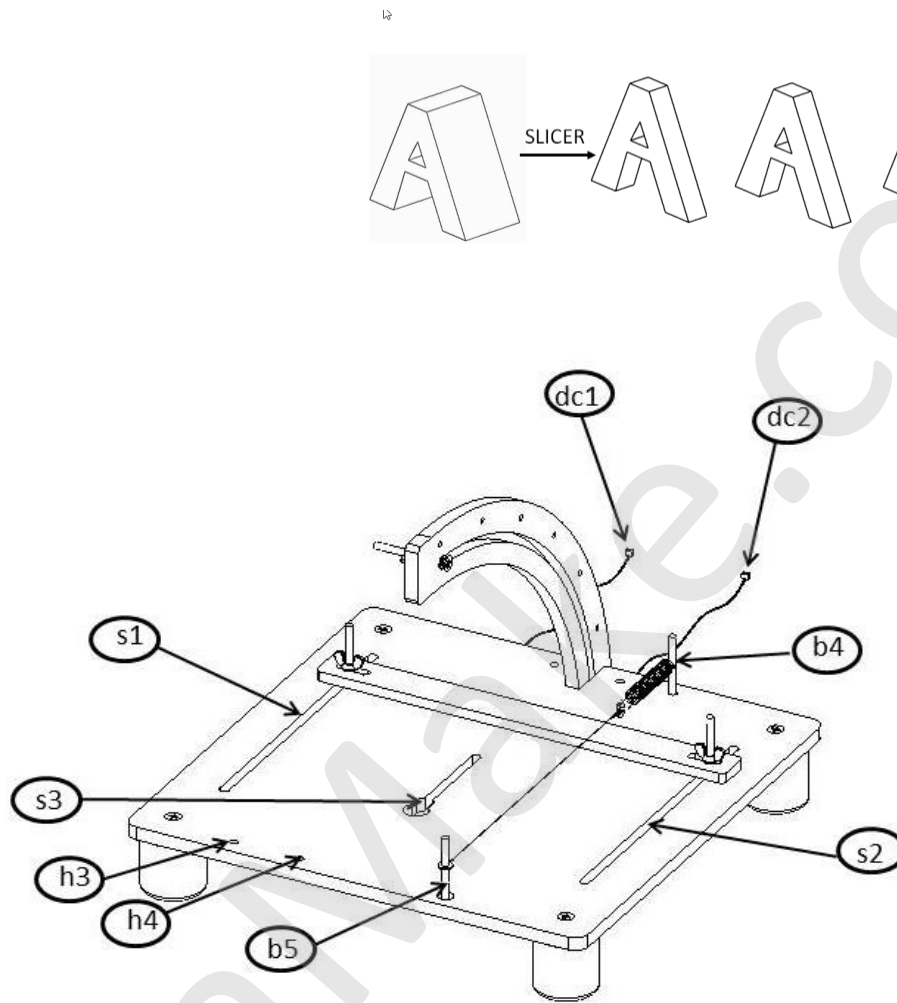

Figure 4
- Connect the adaptor to the DC1 pin coming from the hotwire machine and plug it to the main power supply. Place the stencils over the Thermocol, trace the letters and cut the Thermocol using our machine. Note: Two DC Connectors (DC1 and DC2) will come from the machine (Figure 4). DC1 will power hotwire mode. DC2 will power slicer mode.
- Wire angle adjustment: Arc plates have holes to indicate various angular positions of the wire (90, 75, 60, 45, 30, 15 deg). Wire can be fixed at any of the angle by fixing bolt b1 at suitable position on arc slot s4 in the Arc plate (3). When adjusting wire angle, u may have to remove the NiCr wire from the bolt b1 or spring from bolt b3, for easy adjustment. Fix the Nicr back after angle adjustment.
Step 3: Connect the same wire and spring between bolts b4 and b5. (Refer figure4)